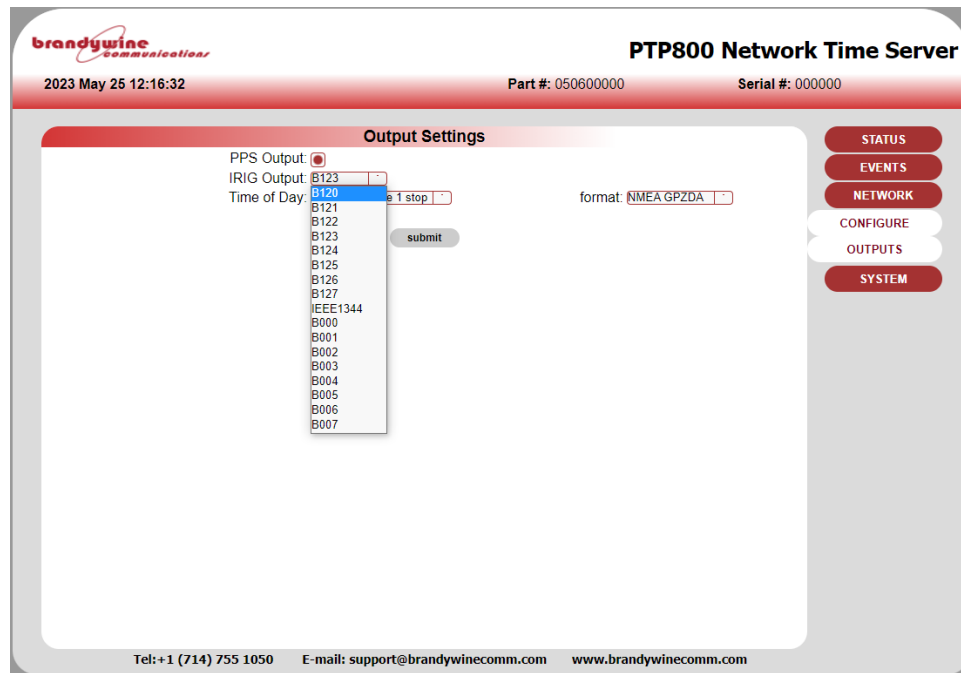

Figure 5.3: Configuring IRIG B Output Format
The PTP800 generates IRIG B serial time code in either carrier modulated (AC) or Unmodulated (DCLS) format by means of the IRIG Output radio button, on the [CONFIGURE → OUTPUTS] webpage. The code format is selected on the Output Setting webpage shown in Figure 5.3 and output on connector J16.